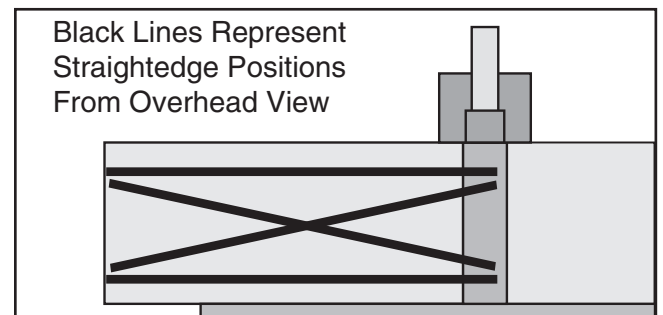

Figure 51. Straightedge positions for verifying if outfeed table is parallel with cutterhead.
3. Place straightedge in one of the positions shown in **Figure 51**, and adjust eccentric bushings so straightedge touches cutterhead body while lying flat across outfeed table (a small hammer and punch may be necessary to turn eccentric bushings).